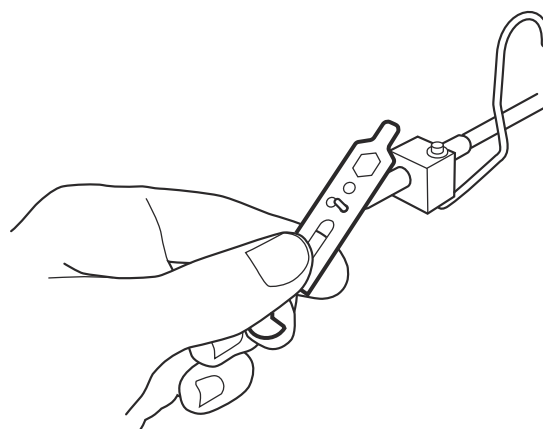
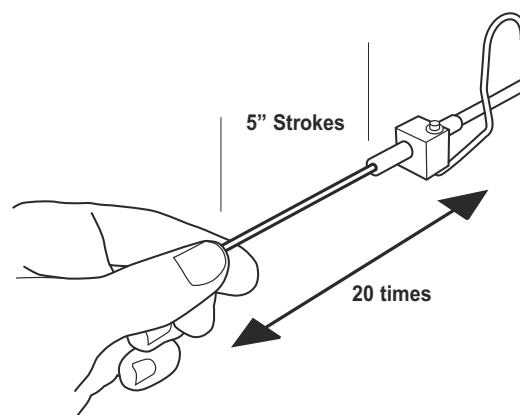

Figure 14-20. Remove the Cable.
Figure 14-21. Scour the Fuel Line.
- Scour fuel line. Remove cable from fuel line (see fig. 14-20). Stubborn cables can be loosened with a common lubricant, such as WD-40® or pump cup oil. Wipe cable clean and fully reinsert it into the fuel line. Move cable in and out, using 5-inch strokes, 20 times (see fig. 14-21).